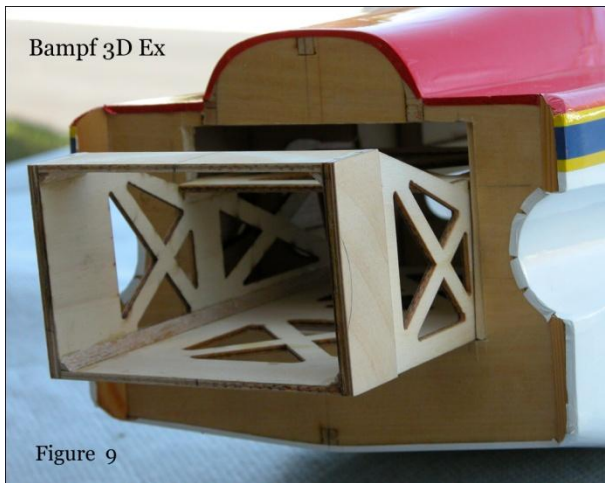

Figure 9
- b. Slide the Battery Box into the fuselage (Figure 9) checking for fit.